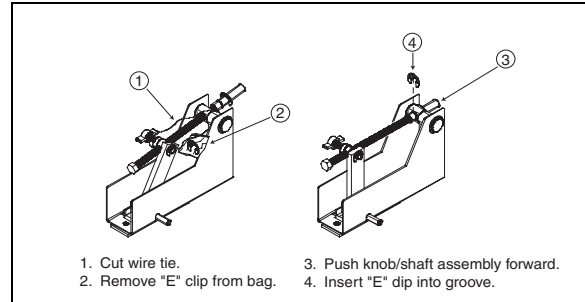

Fig. 2 Constant volume valves.
9. "E" clip supplied for CVV adjustment mechanism. Must be inserted by installer (see Figure 2 on the next page).